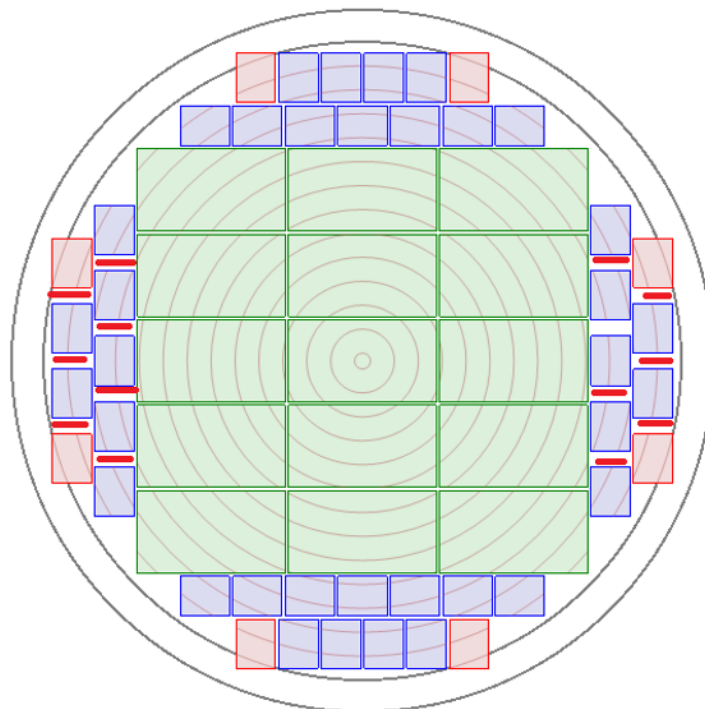

Figure 90: Rip saw first pass
I.Pass boards define the thickness for edger in side boards of the first pass (red lines) - Fig. 90 on page 75